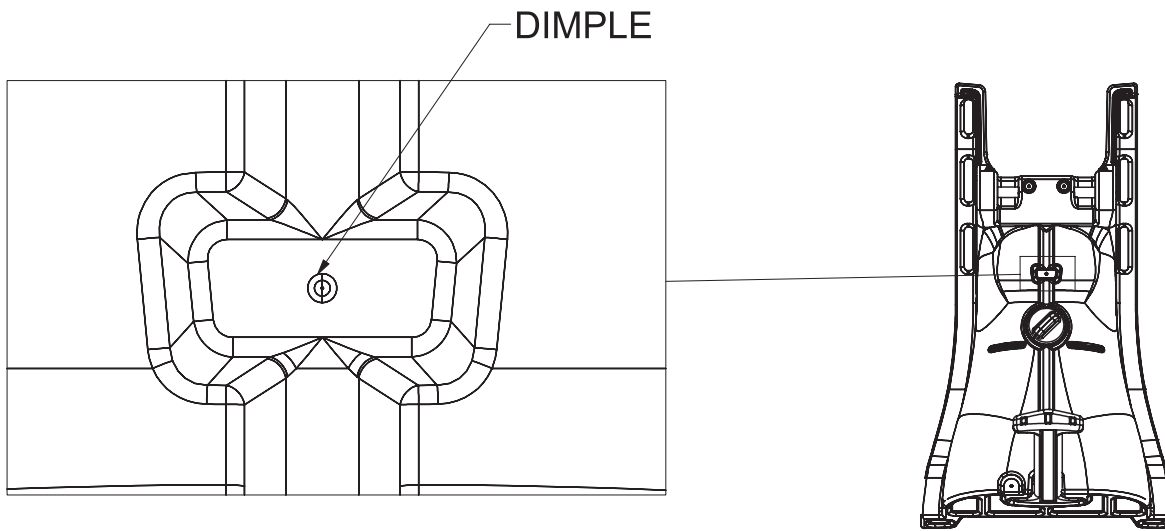

Figure 10
6. Install the second hose clip in the recess on the back side of the ladder shown in **Figure 10**.